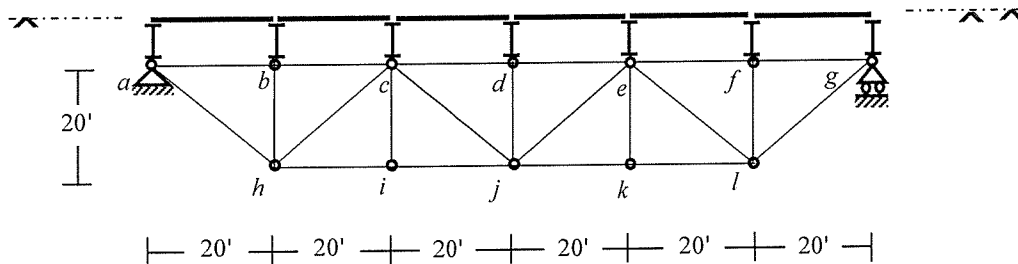
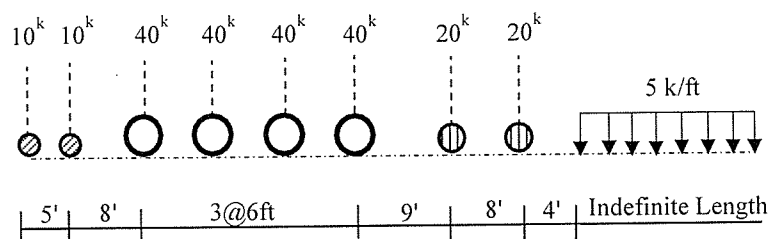

Fig.1: Truss Bridge
Fig.3: Wheel load arrangement
1. Analyze the truss shown in Fig.1, to [15]
2. Analyze the truss shown in Fig.1, to obtain the maximum force in member cj . The truss is subjected to wheel loads shown in Fig.3 moving from right to left across the bridge. [15]
- b) Fig. 3 shows a beam-column joint in a continuous building frame. The negative steel required at the end of the beam is 2.90 in^2 ; however, two no. 11 bars are used, ($A_s = 3.12 \text{ in}^2$.) Beam dimensions are: $b = 10$ in.; $d = 18$ in. and $h = 21$ in. The design shear reinforcement will include no. 3 stirrups, first four of which are spaced at 3 in. and the remaining stirrups spaced at a constant 5 in. spacing in the region of the support, with 1.5 in. clear cover. Normal weight concrete with $f'_c = 4000$ psi and steel with $f_y = 60,000$ psi is used. Find the development length, l_d at which the negative bars can be cut off.